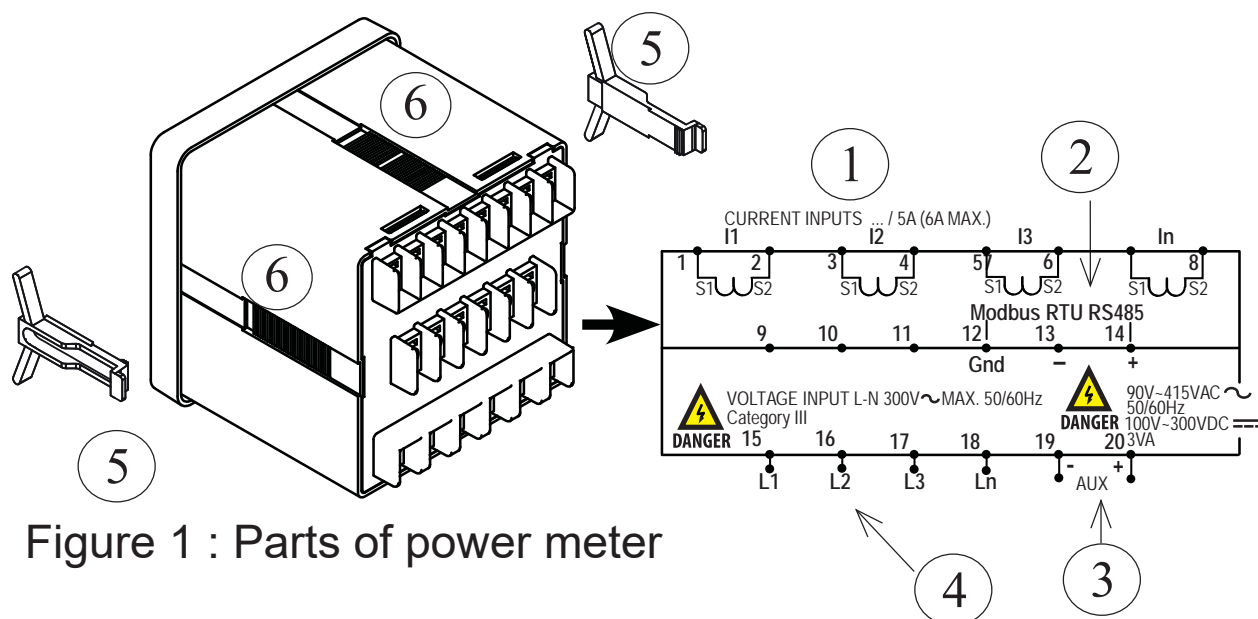

Figure 1 : Parts of power meter
b) Insert the power meter through the hole and slide in the retainer clip along the slots on left and right sides or bottom and top sides of the power meter until the device is tightly secured on the switchgear panel. The orientation of the retainer clips is shown in figure 1.